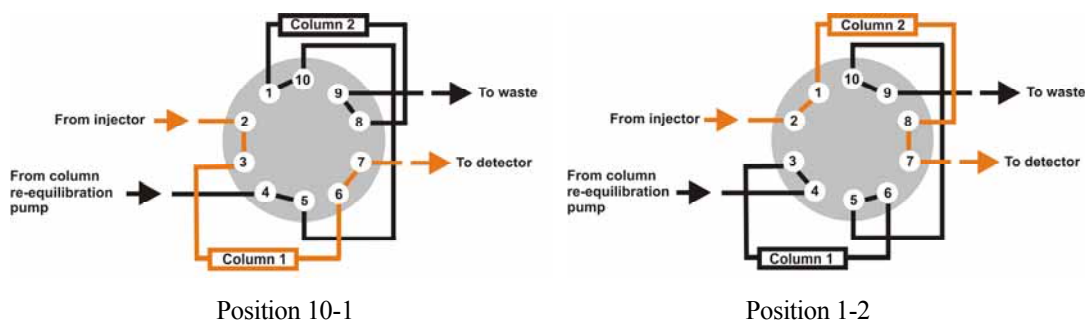

Fig. 3: Example for column switching with a 2-position, 10-port column switching valve
- The TCC with 2-position, 10-port switching valves allows increasing the sample throughput by overlapping injections with offline re-equilibration of two matched chromatographic columns. During this process, offline re-equilibration is performed for one chromatographic column, while the next sample is simultaneously injected and analyzed on the other column (→ Fig. 3, page 13).
- Fig. 3 shows a flow schematics for a 2-position, 10-port column switching valve when it is connected for an application with overlapping injection with offline re-equilibration of the column. In position 10-1, column 1 analyzes while column 2 re-equilibrates. In position 1-2, column 2 analyzes, while column 1 re-equilibrates